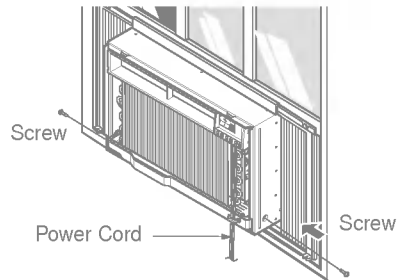

Fig. 18
- Slide the unit into the cabinet. (See Fig. 18)